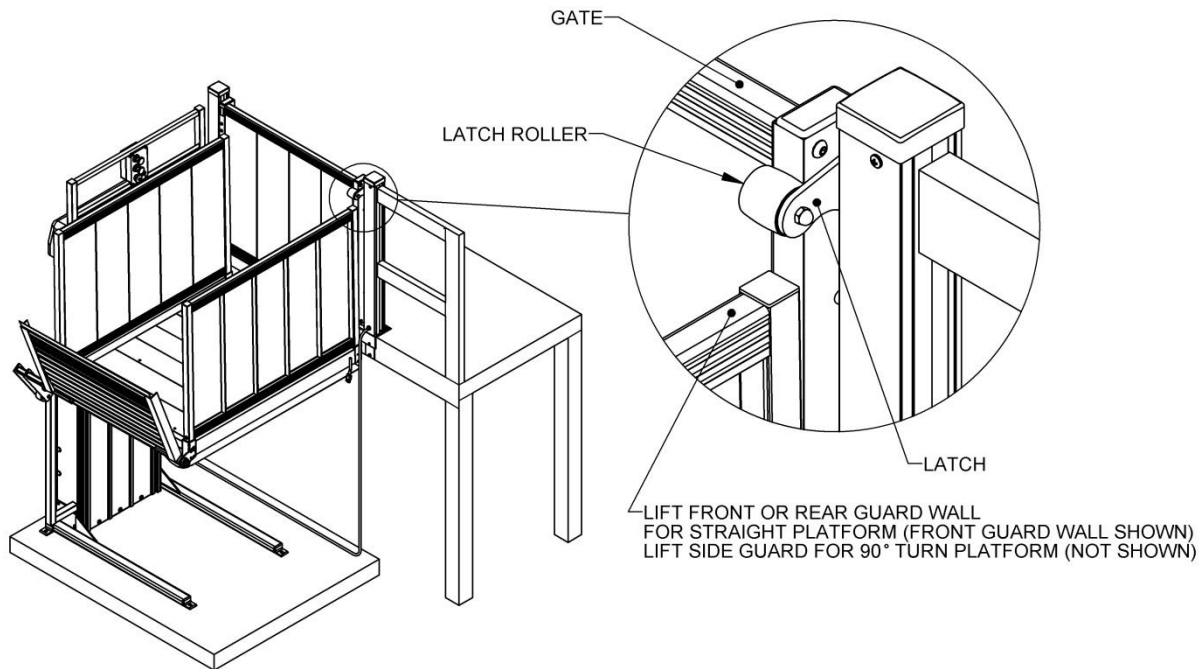

FIG. 6.2
6. After completing the VPL installation, place the Top Landing Gate on the porch or deck and adjust its position side to side until the front or rear guard wall of the platform aligns with the latch roller on the Top Landing Gate without hitting the latch (FIG. 6.2). It is recommended that this be done with weight on the VPL Platform approximately equal to the VPL user's weight since the platform has a built in 1° angle which may affect the alignment.